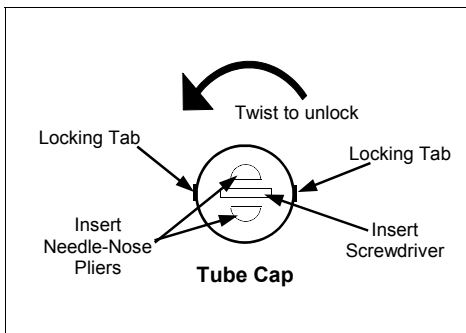

Fig. 2. Opening the Case
1. Remove the Tube Cap. Insert either a flat-blade screwdriver or needle-nose pliers into appropriate slots in Tube Cap (see Fig. 2). Turn counter-clockwise slightly until locking tabs in Tube Cap release the Cap. Tube Cap will drop free.